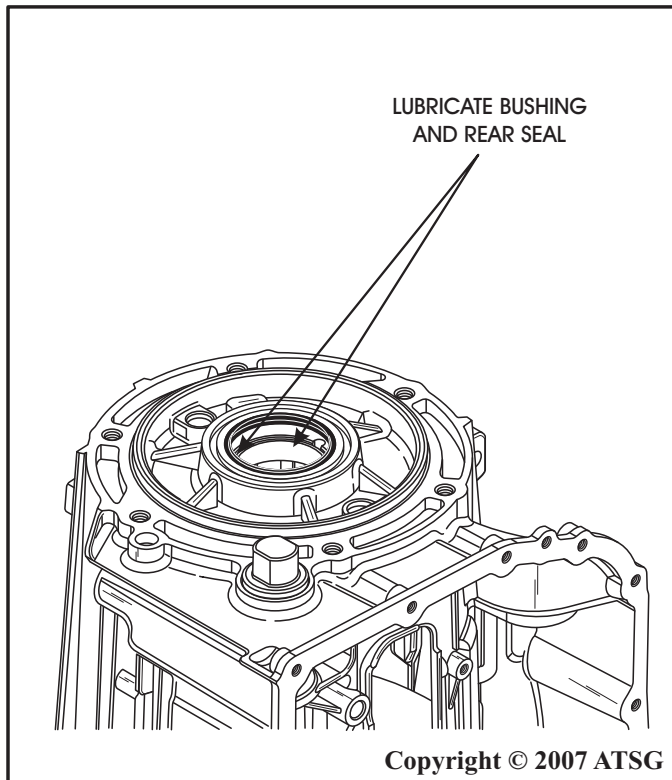

Figure 153
1. Rotate transmission case in fixture so that rear of preassembled case is facing up, as shown in Figure 153.
2. Lubricate rear case bushing and rear seal inside diameters with a small amount of Trans-Jel®, as shown Figure 153.